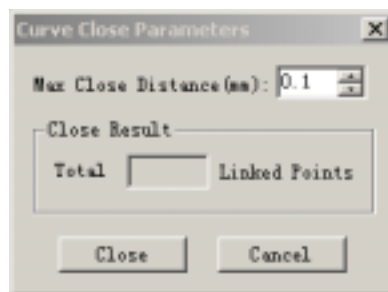

Fig. 6-12
2. Click on the icon  in Modification Bar or click Modify->Close. Then the following dialog is displayed. (Fig. 6-12